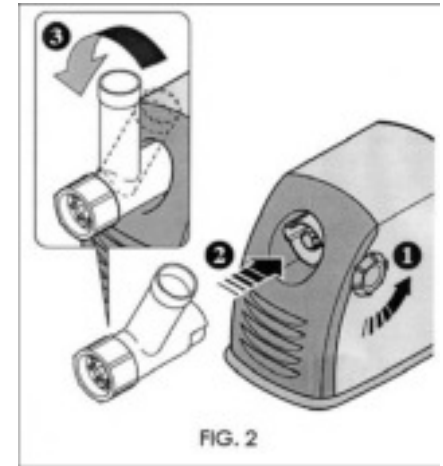
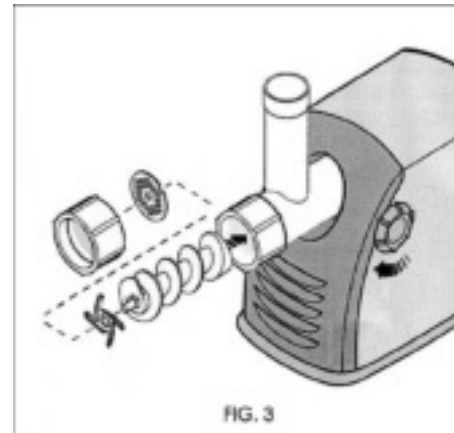

FIG. 2
FIG. 3
2. Make sure Switch is "off" (O) and power cord unplugged before assembling.
3. Turn Locking Screw (1) counter-clockwise several turns. Insert Grinder Head into Attachment Fitting as shown in (2) until seated (Fig. 2). Rotate Grinder Head counter-clockwise (3) to lock in place. Turn Locking Knob (1) clockwise until fully seated to securely lock Grinder Head into Motor Body (Fig. 3). IMPORTANT: Make sure Grinder Head is in a vertical position and securely locked in place.